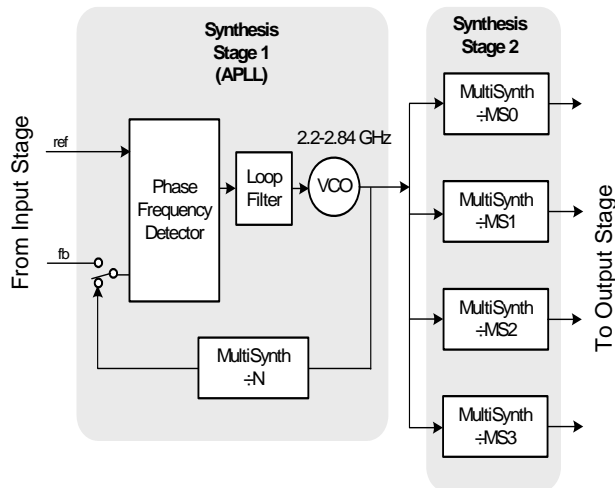

Figure 5. Synthesis Stages
Synthesis of the output clocks is performed in two stages, as shown in Figure 5. The first stage consists of a high-frequency analog phase-locked loop (PLL) that multiplies the input stage to a frequency within the range of 2.2 to 2.84 GHz. Multiplication of the input frequency is accomplished using a proprietary and highly precise MultiSynth feedback divider (N), which allows the PLL to generate any frequency within its VCO range with much less jitter than typical fractional N PLL.